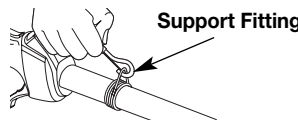

Fig. 5
3. Put the harness on over head and onto shoulder. Snap it on to the support fitting (Fig. 5).